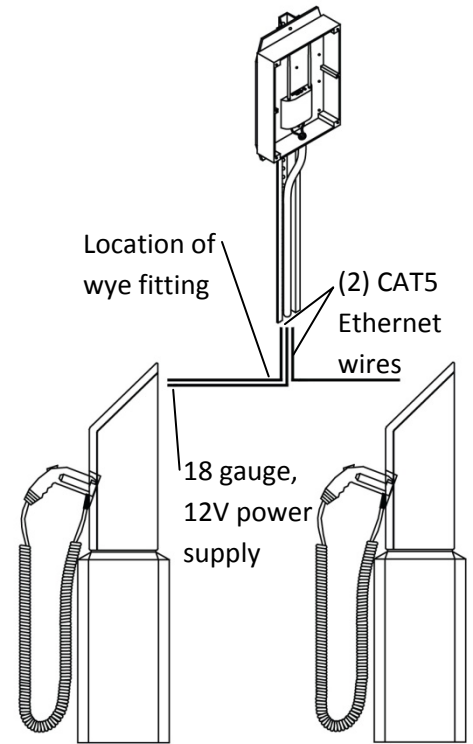

Figure 3
If one router is being used to provide Internet to two stations, a wye will need to be installed as shown in *Figure 3*.
- 9. Pass the CAT5 Ethernet cable and 18 gauge wires from the PEP Station base up through the PVC conduit and into the NEMA enclosure. Leave at least 6" of extra cable in the router enclosure and at least 24" inside of the PEP Station enclosure. If Internet for two PEP stations is required, run a second Ethernet wire through the wye in the PVC conduit and over to the second station as shown in *Figure 3*.